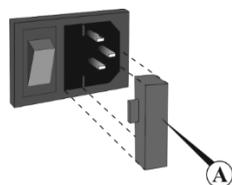

Fig. 6. Fuse replacement
- Pull out the fuse holder by applying leverage in recess (fig. 6/A).